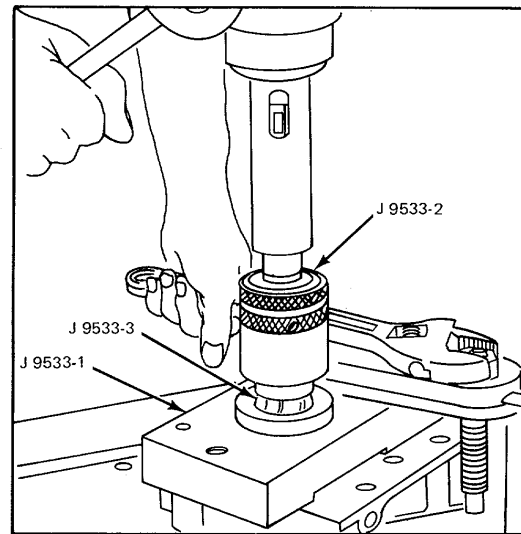

Figure 3. Positioning Cutting Tool in Fixture Guide
5. Position the cutting tool in the fixture guide as shown in Fig. 3. Operate the drill press at 75-100 rpm so as to center the cutting tool in the rotor shaft hole. Tighten the clamp.